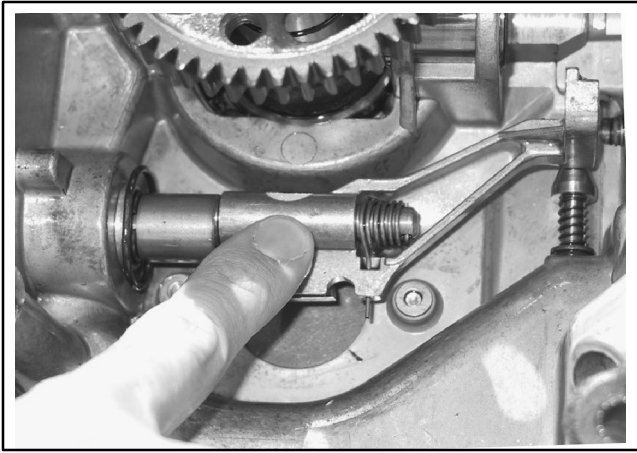

Figure 10-78 Inner Spring
11. Check the speed control shaft performance and check its springs. The inner spring is correctly set if it rejects the push of the governor pin. See Figure 10-78.